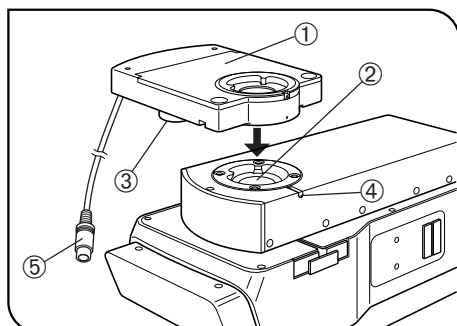

Fig. 3
Mounting the MX-ANM Motorized Analyzer (Fig. 3)
1. Mount the MX-ANM motorized analyzer ① on the U-AFA2M tube mount ② of the U-AFA2M autofocusing unit or on the observation tube mount of the microscope so that the motor ③ is located on the left of the microscope when it is viewed from the front (as shown in Fig. 3), and secure the clamping screw ④ temporarily (because the cross-Nicol adjustment will later be necessary as described below).
2. Connect the connector ⑤ of the connection cable of the MX-ANM motorized analyzer to the connector marked “FW2” on the BX-UCB control box.